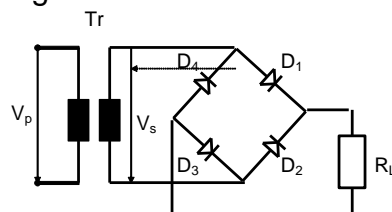

Figure 2.5
3. The value of the continuous component from the rectifier output shown in Figure 2.5 is